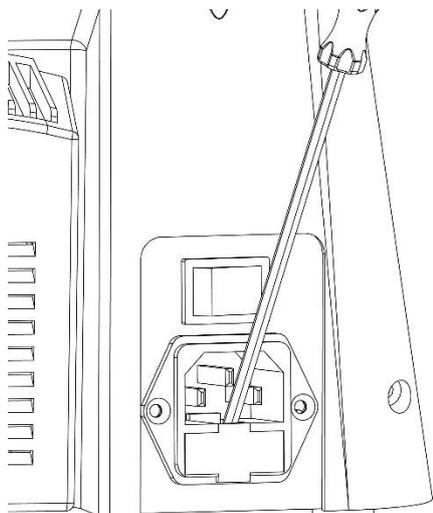

Fig.16
**3-13 Fuse replacement (Fig.16, 17)**
As shown in Fig.16, firstly, open the drawer of the fuse box with a universal adjustment wrench, then use a universal wrench to gently push the fuse through the square hole under the fuse drawer.